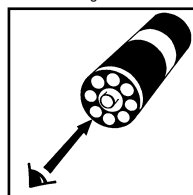

Figure 3
a. **Low Range Comparator (fig. 3):**